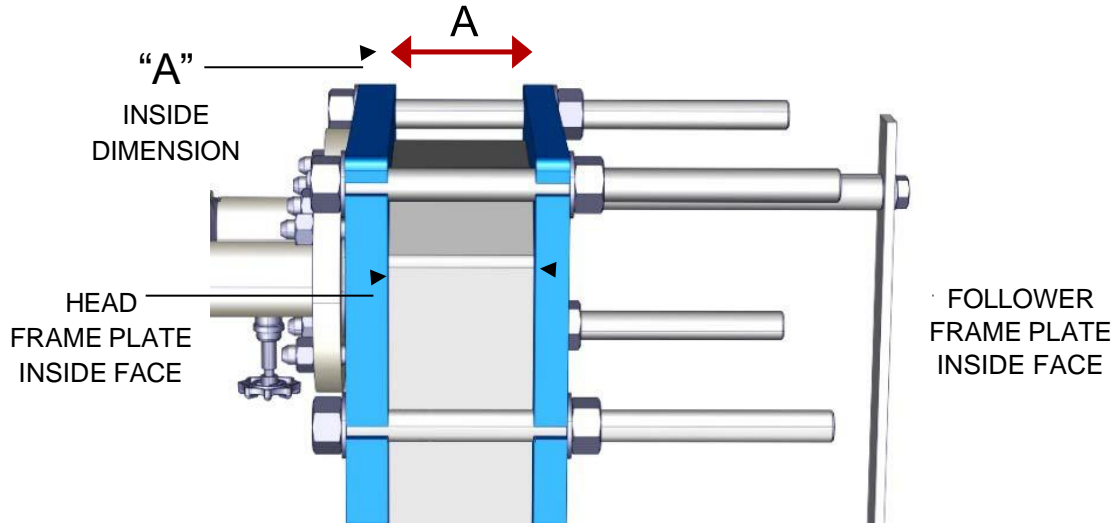

FIGURE 4-1: Critical Dimension "A"
IMPORTANT! The distance between the inside faces of the Follower frame plate and the Head frame plate ("A" in Figure 4-1) is listed in the service contract. If unavailable, then carefully measure and record it before disassembly, as this dimension is critical for proper reassembly.
6. Clean the exposed threads of the ten clamping bolts (Figure 4-1) and grease them.
5. Tightening is complete when the distance between the inside faces of both Follower and Head frame plates equals the "A" distance as shown in the datasheet or measurement (see Figure 4-1). This tightening distance can also be calculated using the following formula: Assembly distance = No. of plates x (plate thickness + coefficient) the coefficients vary depending on the model type. If in doubt, please check with the relevant TL Sales Office.